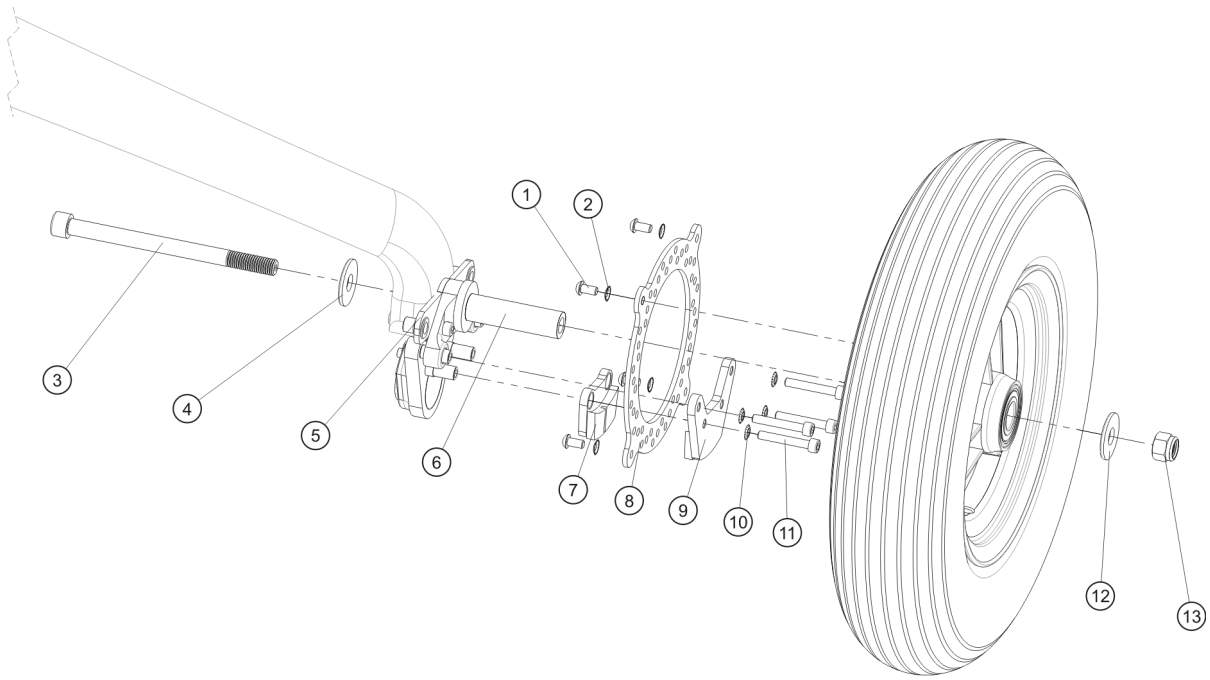

Fig. 2 - Main gear, wheel and brake
- 11   Torque-tighten bolts (Fig. 2, 1) with 10 Nm in crosswise sequence.
- 12   Install new self-locking nut (Fig. 2, 13) with washer (Fig. 2, 12) and torque-tighten with 50 Nm.